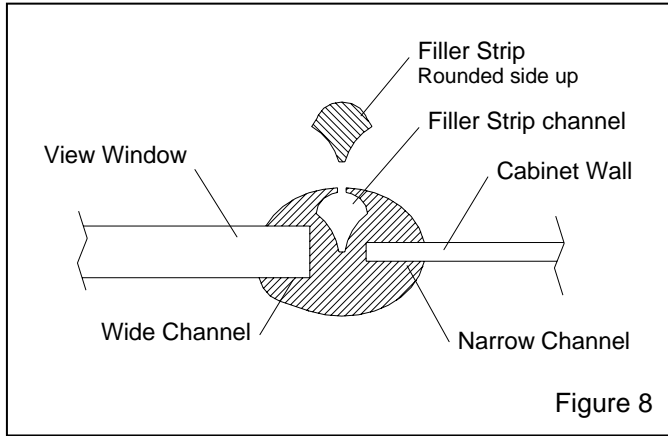

Figure 8
6.3.5. If the window molding needs replacing, replace it in the same order as the old; the narrow channel fits over the metal edge of the opening, as shown in Figure 8. The molding ends should meet in the middle of the top, straight section of the opening. Molding should be compressed so the ends are tightly sealed.